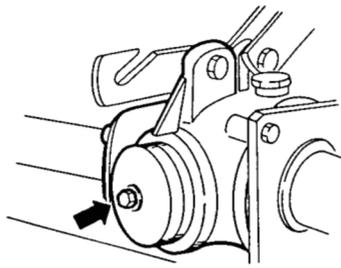

Fig. 19
- 5 Input Gearbox - With tiller level, remove oil level check plug on rear of gearbox housing. Correct oil level is at bottom of check plug. Add oil if necessary. Gearbox capacity 2 pts. (Fig. 19).